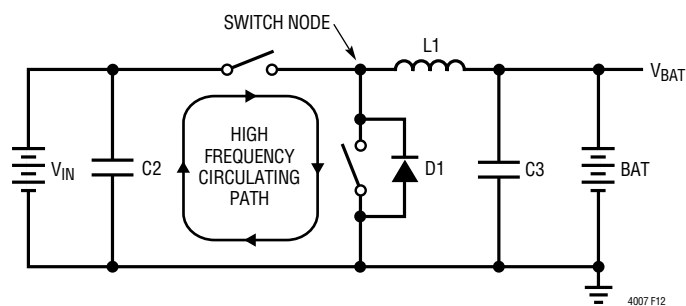

Figure 12. High Speed Switching Path
For maximum efficiency, the switch node rise and fall times should be minimized. To prevent magnetic and electrical field radiation and high frequency resonant problems, proper layout of the components connected to the IC is essential (see Figure 12). Here is a PCB layout priority list for proper layout. Layout the PCB using this specific order.
12. For best current programming accuracy provide a Kelvin connection from  $R_{\text{SENSE}}$  to CSP and BAT. See Figure 12 as an example.